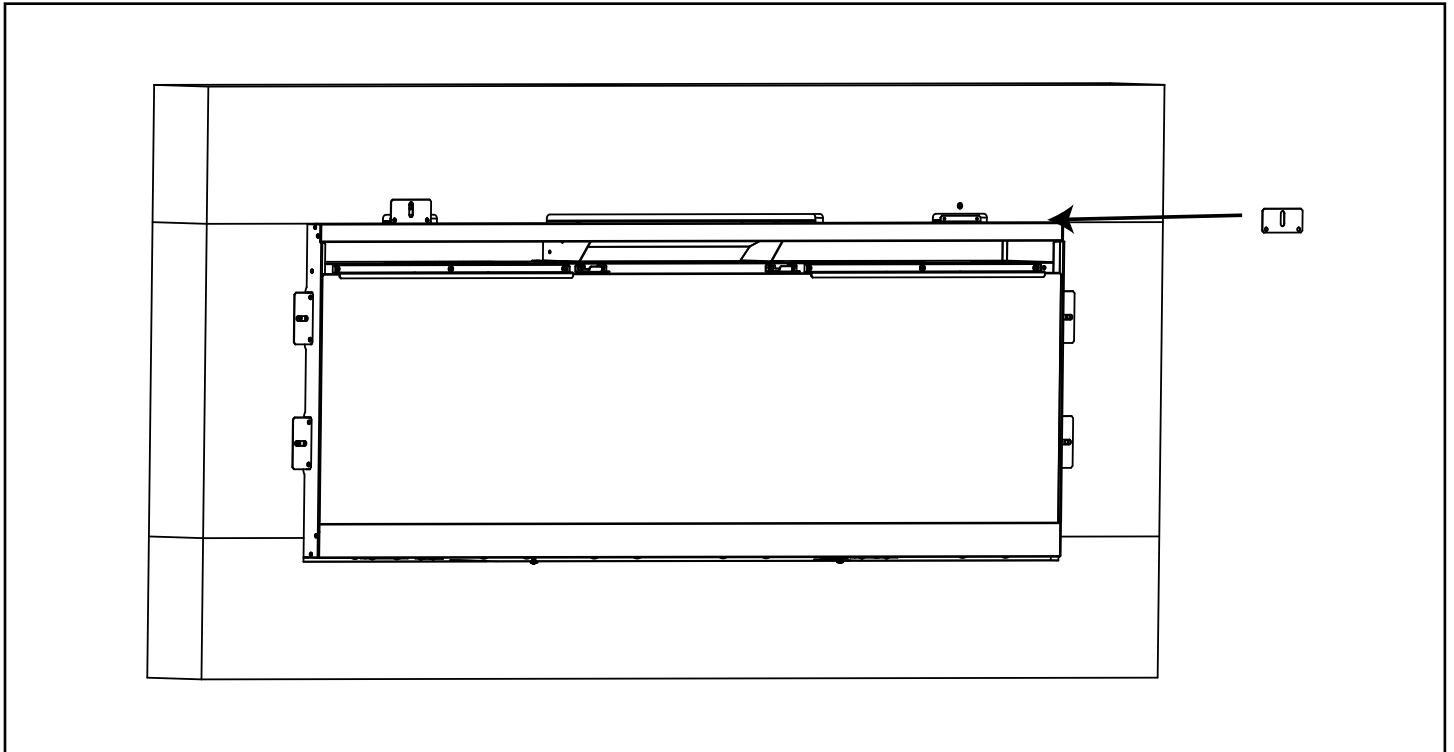

Figure 13 Install Bracket Face of Two-Piece Bracket
5. Line up the bracket face of the two-piece bracket to the bracket base and use twelve (12) STx8 screws to install the pieces together. See Figure 13.
6. The middle slot on the bracket should line up with the pre-drilled holes in the surround. Use the six (6) ST5x10 screws to attach the appliance to the surround.